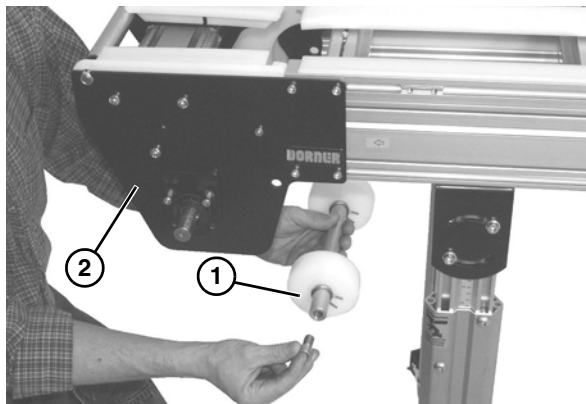

Figure 25
3. Lower roller assembly (**Figure 25, item 1**) from drive tail assembly (**Figure 25, item 2**).